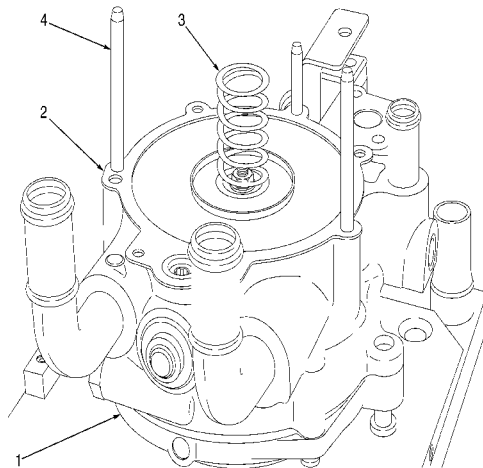

Figure 7-30. Alignment Pin Installation
6. Position the diaphragm as noted during disassembly. Install the diaphragm by hooking the shaft to the lever assembly. Install the four alignment pins in the main housing as shown in Figure 7-30.